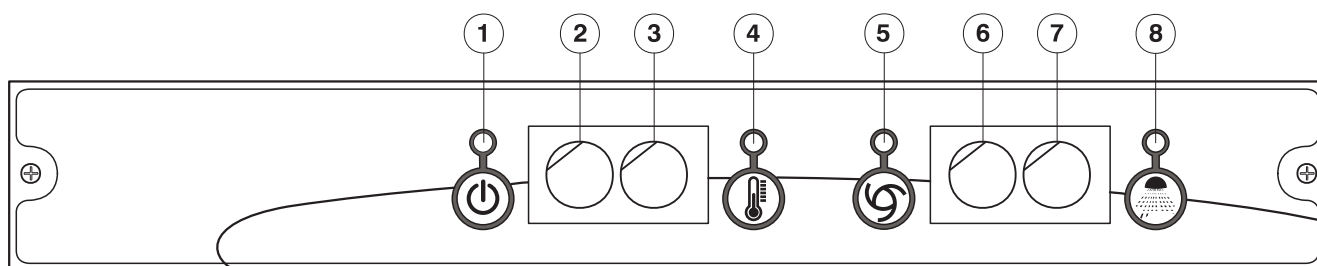

Fig. 14b
3. Start the drain pump by pressing the DRAIN PUMP SWITCH (7) (fig. 14b, page 59), if supplied